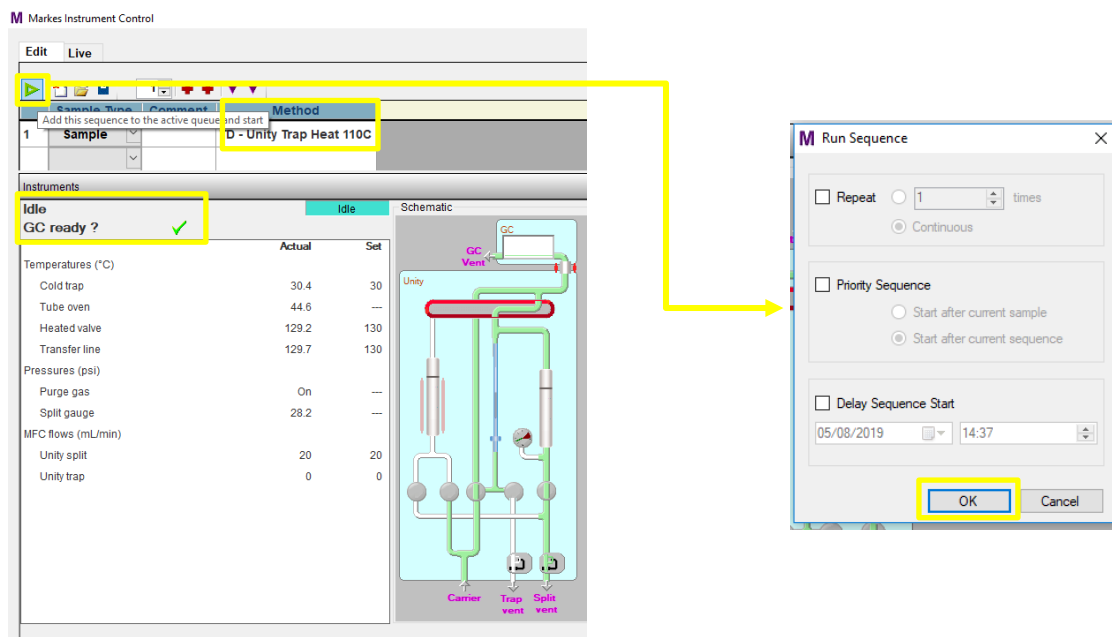

Figure 4. How to begin a TD sequence.
3.2.4 The CTB method will be then loaded in the sequence. The instrument must be in “Idle” and the “GC ready?” message must be ticked (Figure 4). Press the green button to start the sequence. A “Run Sequence” window will pop up. Make sure all the options are unticked and press “OK”.